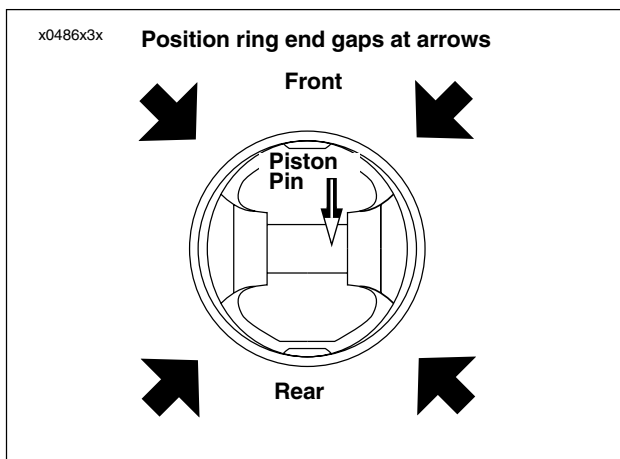

Figure 3-78. Ring End Gap Position
3. See Figure 3-78. Install rings so end gaps of adjacent rings are a minimum of 90° apart. Ring gaps are not to be within 10° of the thrust face centerline.